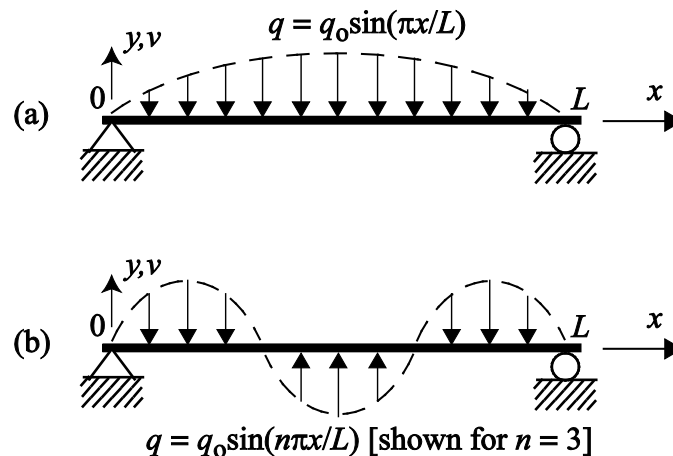

Figure 13
14. The uniform elastic beam shown in Figure 13(a) is of length L [m] and its bending stiffness is B [Nm²]. It is simply supported at its ends, and is straight when not loaded. It is now subjected to a non-uniform distributed transverse loading of intensity
(e) Show that for a loading $q = q_0 \sin (n\pi x/L)$, as in Figure 13(b), the transverse deflection is given by $v = - (q_0 L^4 / n^4 B \pi^4) \sin (n\pi x/L)$.